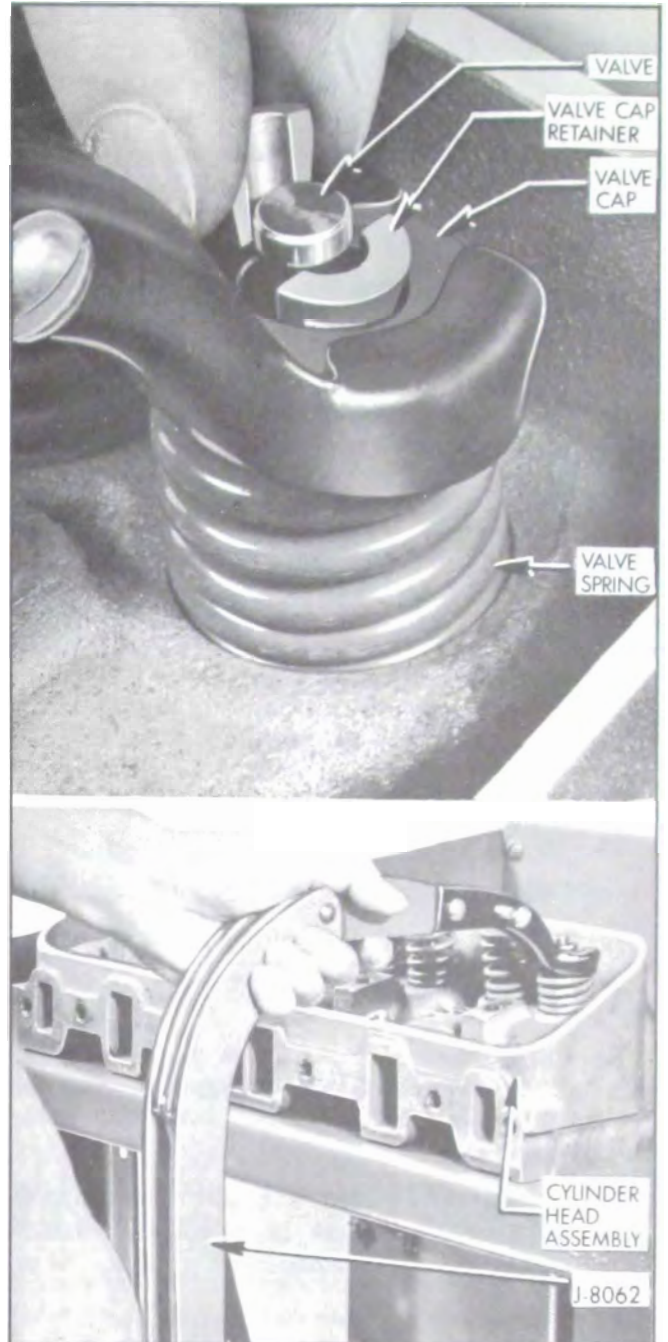

Figure 2-20—Removing and Installing Valve Cap Retainers
2. Using suitable spring compressor, such as J-8062, compress valve spring and remove cap retainers. Release tool and remove spring and cap. See Figure 2-20.